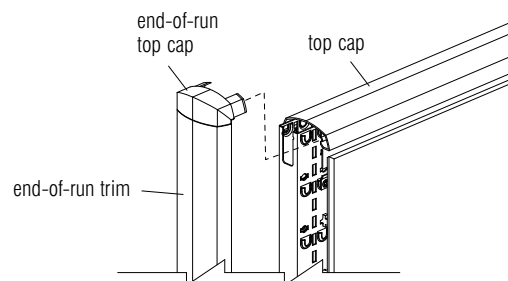

Figure 77
2. Push the end-of-run trim with top cap onto the full post. Ensure that the notch at the bottom of the trim rests on the lip of the glide housing. **Figure 77.**